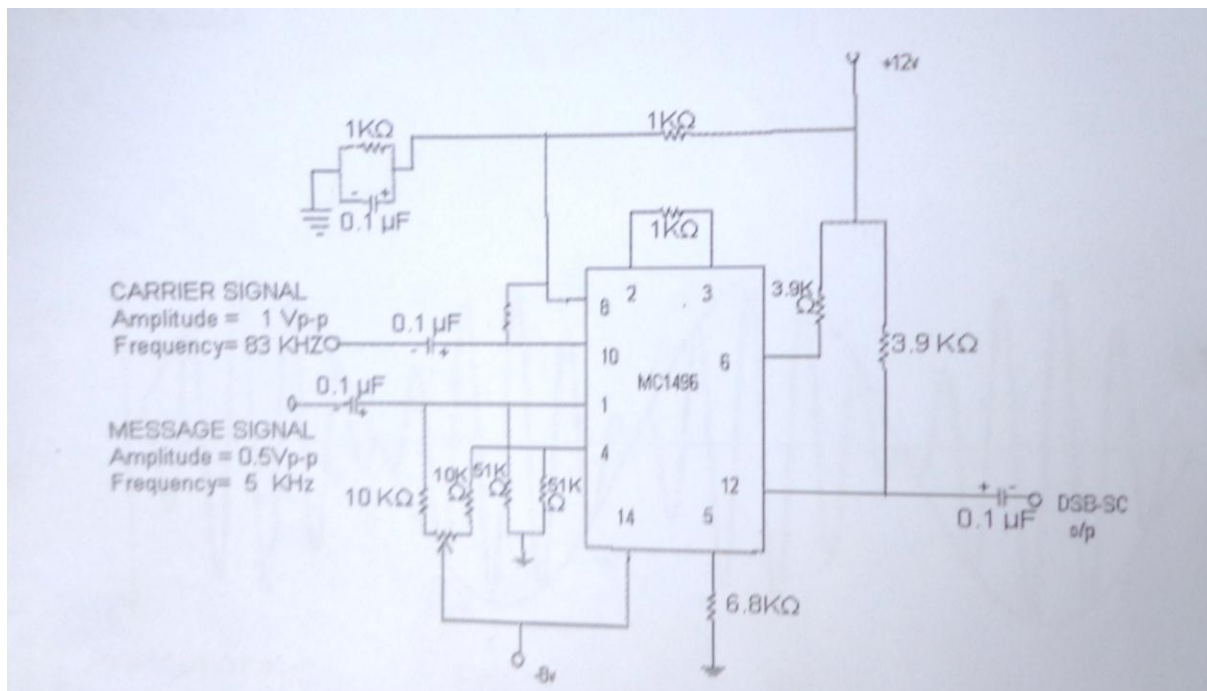

Fig: 1. Balanced Modulator Circuit
1. Connect the circuit diagram as shown in Fig.1.